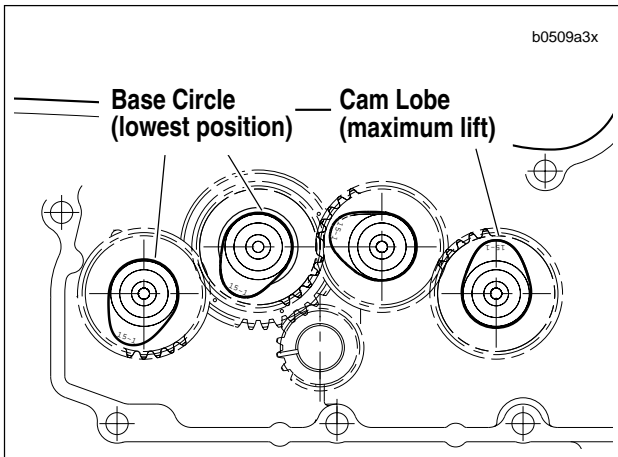

Figure 3-57. Base Circle
1. See Figure 3-57. Rotate engine so that both lifters, from the cylinder being serviced, will be installed on the base circle (1) of the cam.